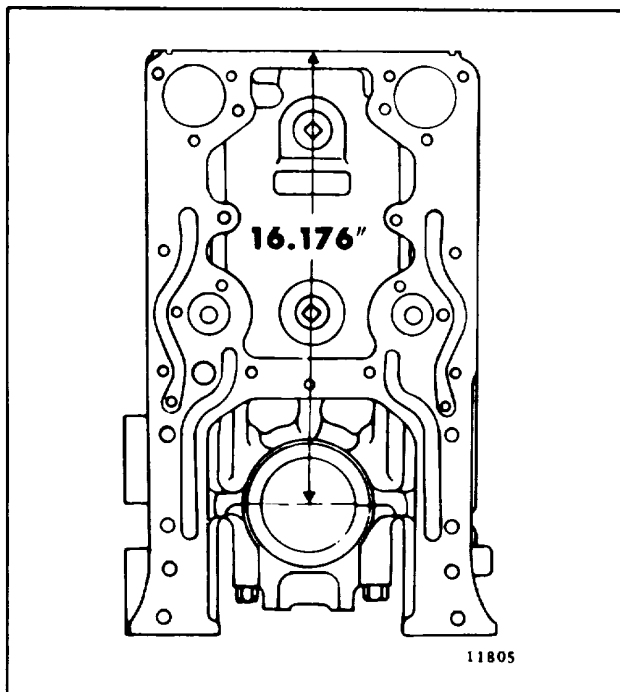

Fig. 16 - Minimum Distance from Center Line of Crankshaft to Top of Cylinder Block
- b. If it is necessary to machine the top surface of the block to correct for the above conditions, do not remove more than .008" of metal. Stamp the amount of stock removed on the face of the block. The distance from the centerline of the crankshaft to the top of the block must not be less than 16.176"(Fig. 16).